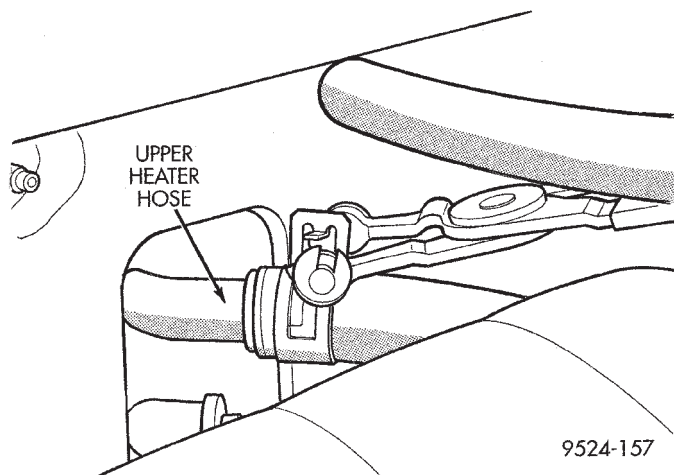
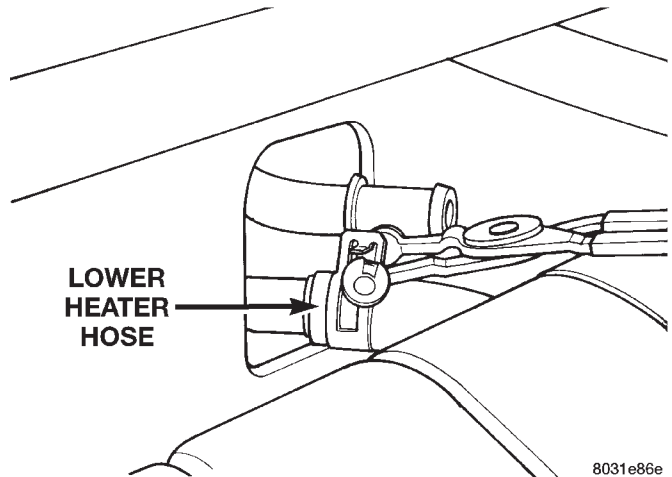

Fig. 38 Upper Heater Hose
Fig. 39 Lower Heater Hose
- (1) Drain engine cooling system. Refer to Group 7, Engine Cooling.
- (2) Loosen clamps at each end of heater hose to be removed (Fig. 38) and (Fig. 39).